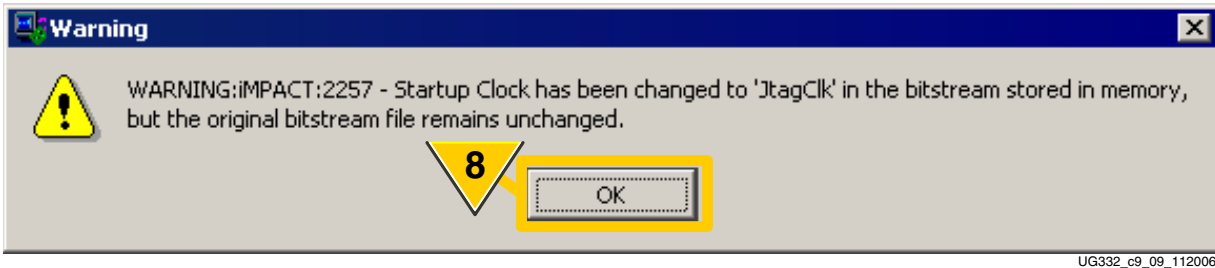

Figure 9-11: **iMPACT Automatically Adjusts FPGA Startup Clock for JTAG Configuration**
8. As shown in Figure 9-11, the iMPACT software automatically detects that the FPGA bitstream was generated for a non-JTAG configuration method. The iMPACT software automatically adjusts the Startup clock setting for successful JTAG configuration (*StartupClk:JtagClk*). The original bitstream file is unaffected.